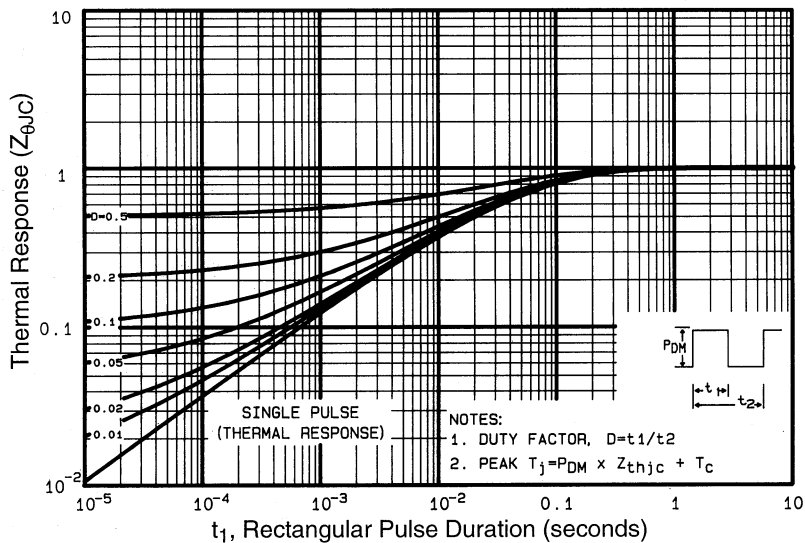

Fig 11. Maximum Effective Transient Thermal Impedance, Junction-to-Case
① Repetitive rating; pulse width limited by max. junction temperature. (See fig. 11)
② $V_{DD} = 25V$, starting $T_J = 25^\circ\text{C}$, $L = 44\mu H$